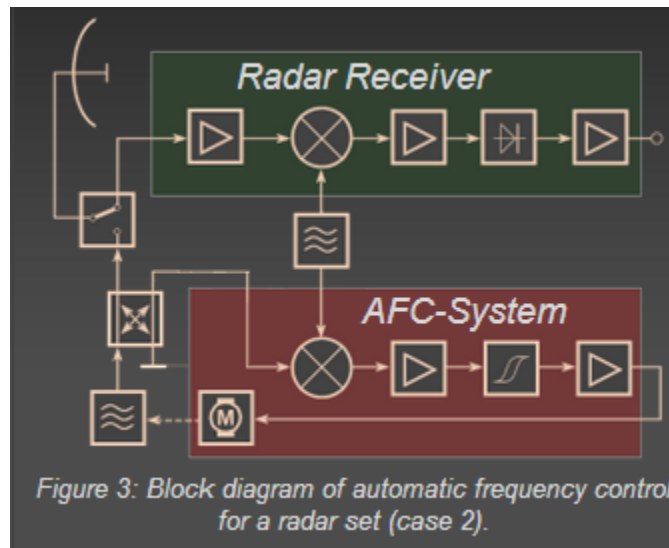

Figure 3: Block diagram of automatic frequency control for a radar set (case 2).
2. The receivers frequency readjust the transmitter (Figure 3).